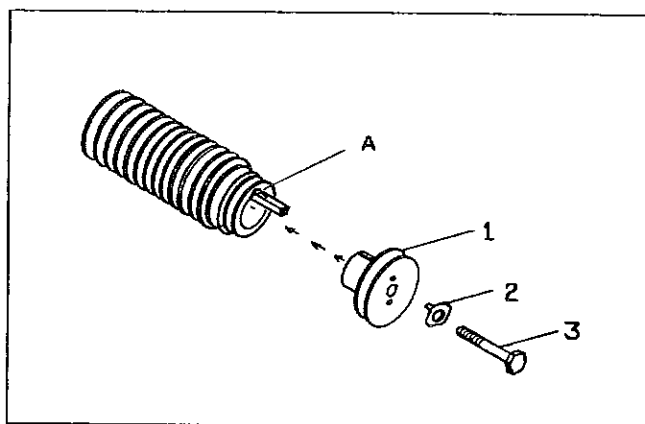

Figure 3 — Drive Pulley Installation
- a) Cut keystone flush with end of the 14-groove pulley, Point A, Figure 3.
- c) Slide the single pulley hub, Item 1, Figure 3, inside the hammermill cylinder pulley.
- d) Place special lock washer, Item 2, Figure 3, in position and install 1/2 x 2-3/4 hex cap screw, Item 3, Figure 3. Tighten cap screw to 75 ft-lbs and secure hex head with edges of special washer tight against edges of bolt head.